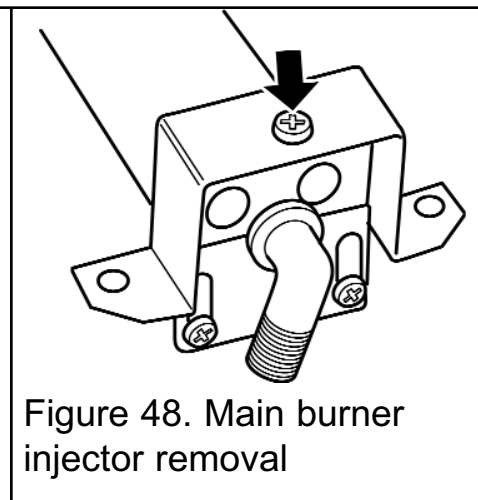

Figure 48. Main burner injector removal
(See figure 48).
2. Remove the burner clamping screw (See figure 48).